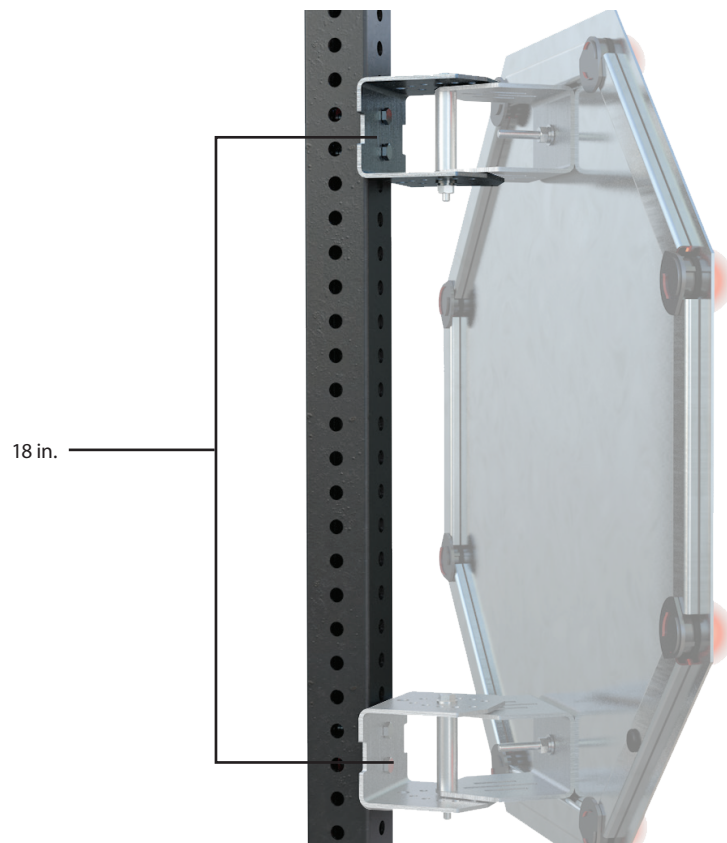

Figure 8
- B.3** Measure for the location of the **bottom** female bracket **18 in.** down the structure from the **top** female bracket bolt as shown in Figure 8.